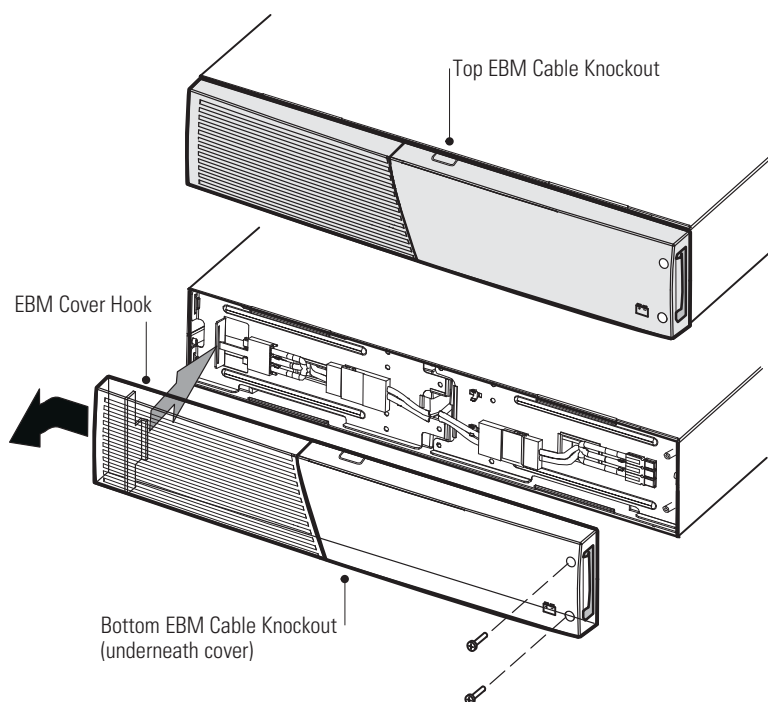

Figure 27. Removing the EBM Front Cover
1. Remove the front cover of each EBM. See Figure 27.
5. Remove the front cover of each new EBM. See Figure 27.
6. For the bottom (or only) EBM, remove the EBM cable knockout on the top of the cover. See Figure 27 for the location of the top EBM cable knockout.
7. If you are installing more than one new EBM, for each additional EBM remove the EBM cable knockout on the top **and** bottom of the EBM front cover. See Figure 27 for the location of the EBM cable knockouts.
To replace the cover, verify that the EBM cables are routed through the EBM cover knockouts, then slide the cover from the left to the right until it connects with the cover hook near the left side of the EBM cabinet. Reinstall the two screws on the right side of the front cover. For reference, see Figure 27 on page 50.